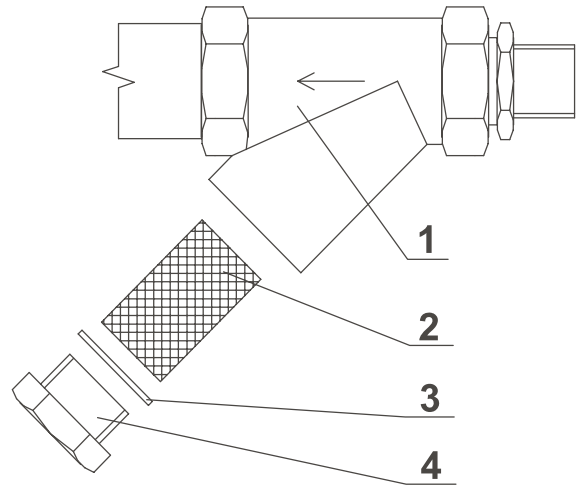

Fig.5.5. Steam filter
If machine steam (hot water) supply line is cold and closed, remove the plug (see fig.5.5.,pos.4) and screen (2) from filter. Water filter is accessible after disconnecting the supply hose.